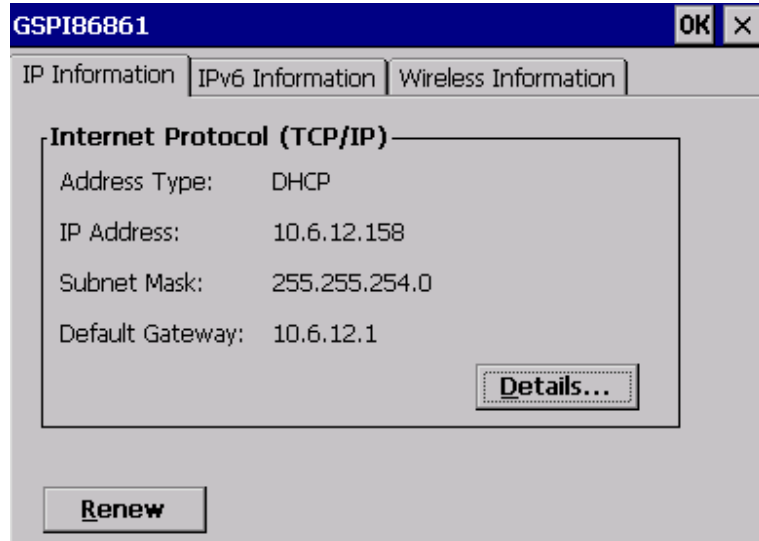

Figure 4-23: IP Information
Step 5: Click the IP Information tab to view the information of the Wireless AP Solo. If the server function is enabled on the AP, the user can automatically get an IP address and a subnet mask. (Figure 4-23)